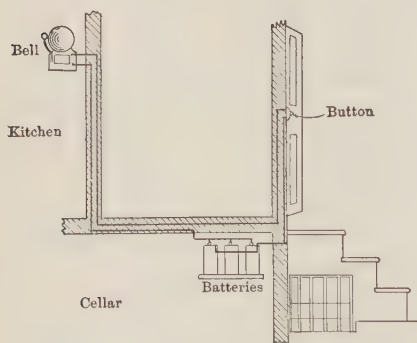

FIGURE 388. — AN ELECTRIC BELL CIRCUIT.
**250. The Electric Circuit.** — Before taking up electrical measurements, we may profitably examine a simple electrical circuit, such as that of the electric bell (Figure 388).